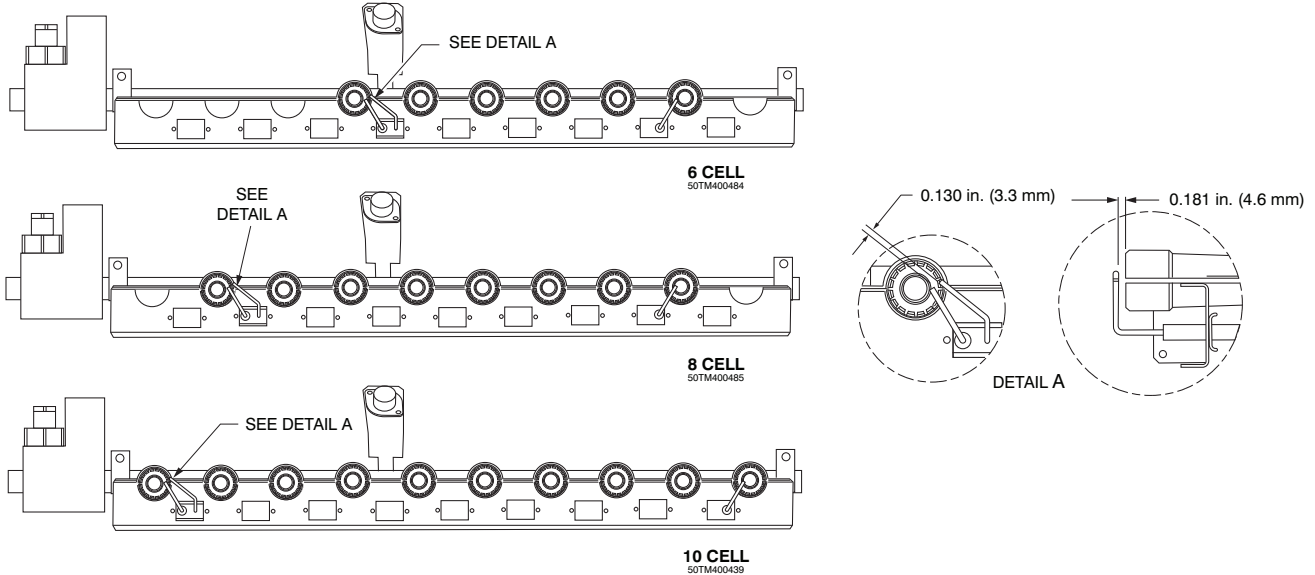

Fig. 67 - Spark Adjustment (Size 16)
4. Adjust spark gap. See Fig. 65, 66 and Fig. 67.